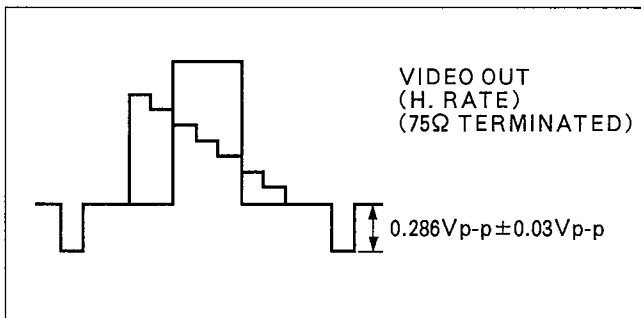

Figure E20
2. Adjust VR8804 so that the SYNC level becomes $0.286\text{Vp-p} \pm 0.03\text{V}$ as shown in Figure E20.